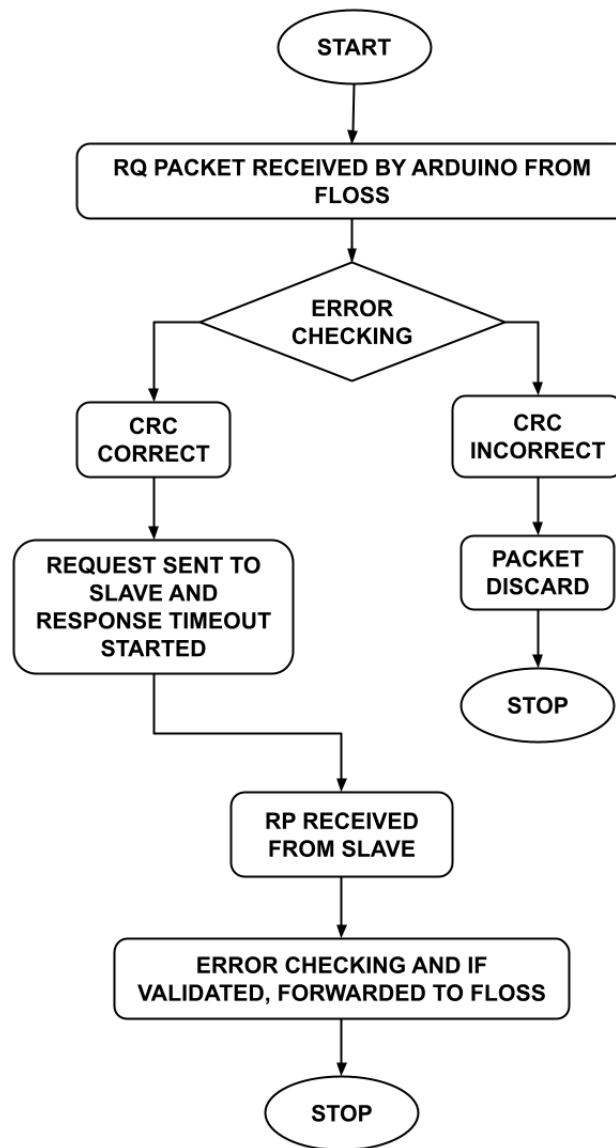

Figure 11.6: Flowchart of Arduino firmware
1. Firmware for Arduino Uno: This firmware is needed to communicate with the FLOSS (using serial interface), and with RS485 module (using Software Serial interface). Control logic to enable receive and transmit modes of MAX485 chip is also present in this firmware. Fig. 11.6 demonstrates the overall implementation of this firmware. The firmware is provided in Sec. 11.3.1.